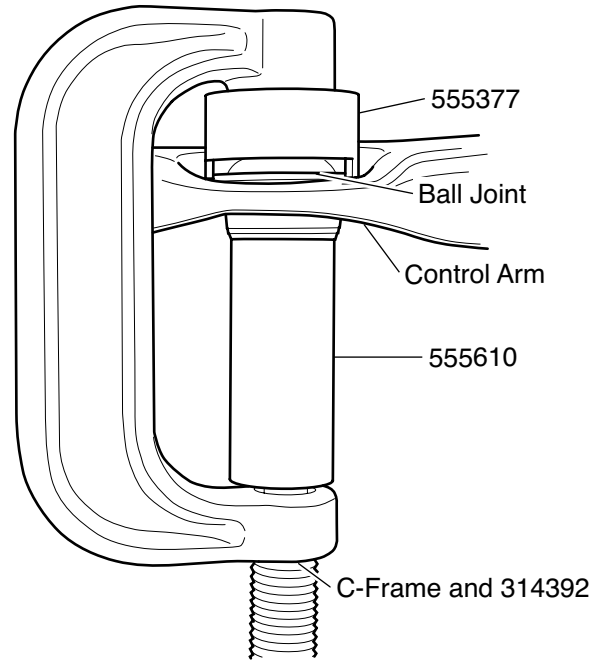

Figure 1. Ball Joint Removal
2. Position 555610, 314392 and the C-Frame as shown in Figure 1.